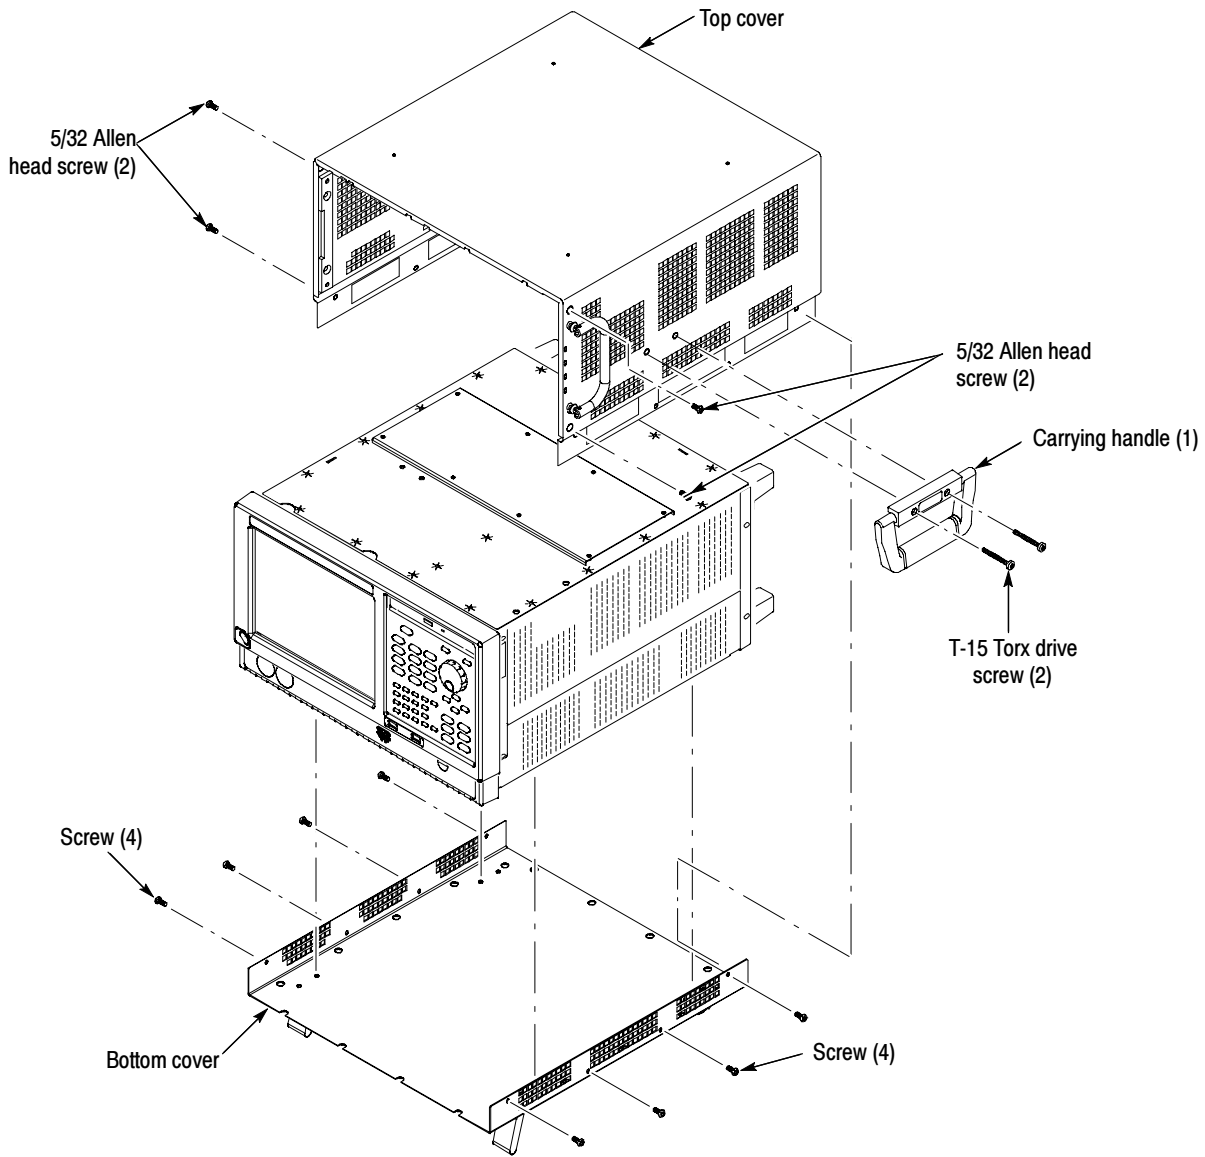

Figure 1: Remove cosmetic covers
3. Remove the two T-15 screws that secure the plastic carrying handle to the side of the instrument. (It is not necessary to remove the black metal handles.) See Figure 1.